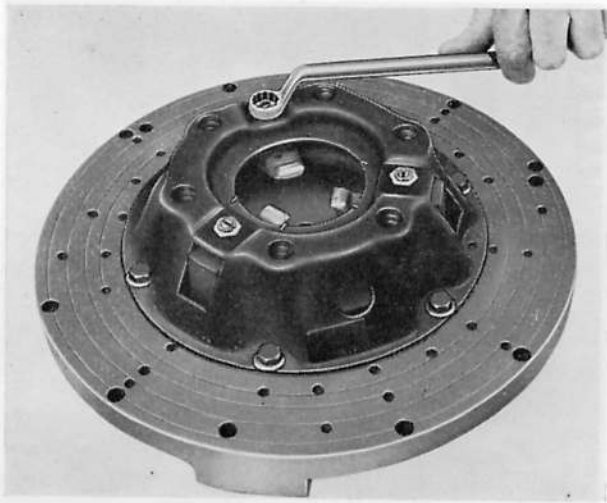

Fig. E.5. Disassembling the clutch
2. Bolt the assembly to a clutch jig and unscrew the eye bolt nuts (Fig. E.5).